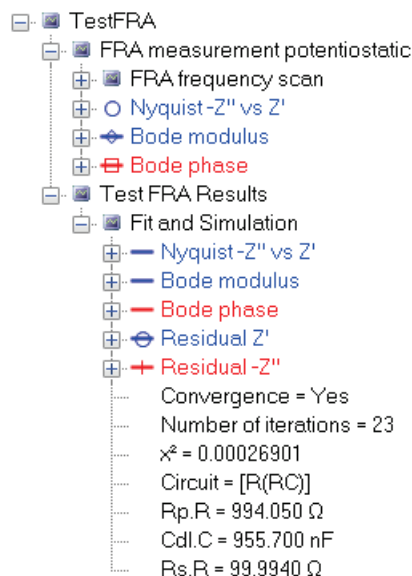

Figure 1.85 – The data obtained with the TestFRA procedure
Switch to the Analysis view to inspect the measured and fitted data in detail. The data set includes the measured data points and the result of an automatic fit of the impedance data with the R(RC) equivalent circuit (see Figure 1.85).